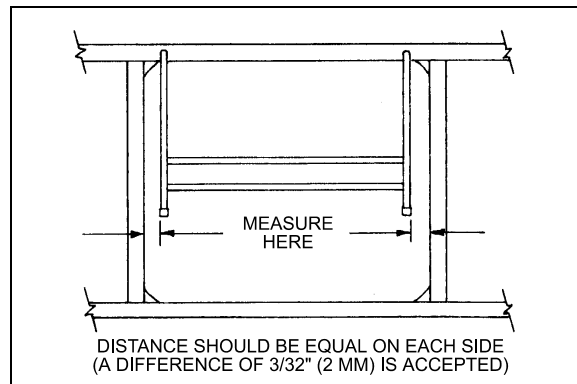

FIGURE 53: PANTOGRAPH DOOR ADJUSTMENT 18063
5. When the door is straight, remove the 2x4's and check door operation and fit. A difference of $3/32$ " (2mm) between both sides is accepted (Fig. 53).